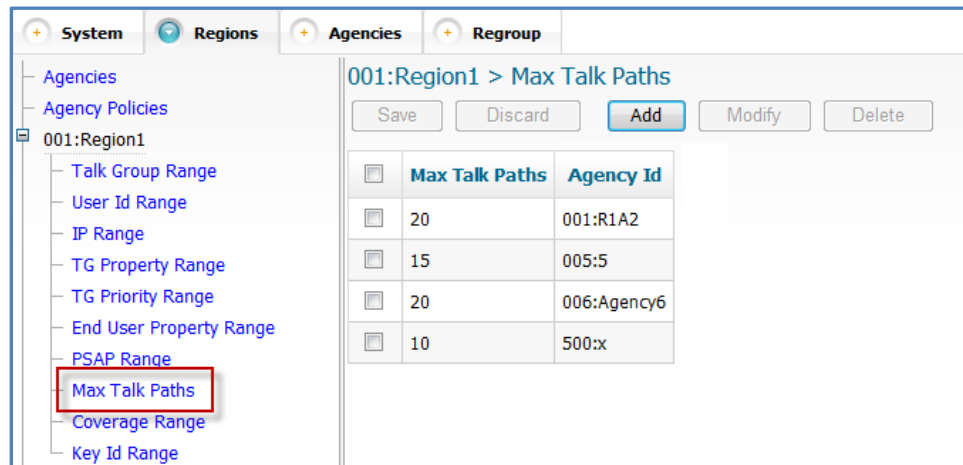

Figure 7-1: Region Maximum Talk Path Screen
3. Click **Max Talk Path** to display the "Max Talk Path" screen as shown in Figure 7-1.